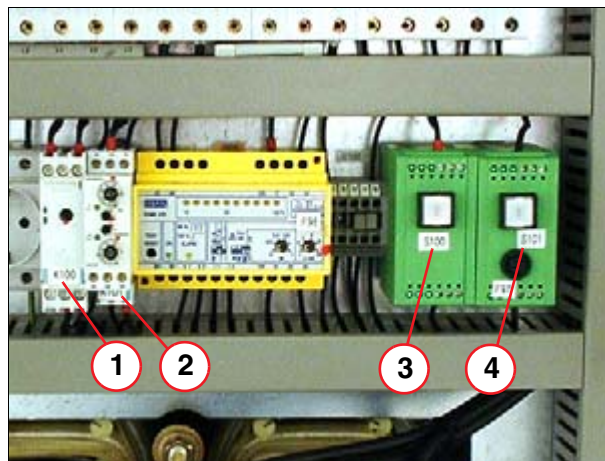

Fig. 4: K100 and K101
If the status of the LEDs is o.k., press the S100 test key (3/ Fig. 4 / p. 23) and hold for at least 2 seconds.
If the LED's status is o.k., press the S101 test key (4/ Fig. 4 / p. 23) and hold for at least 2 seconds.